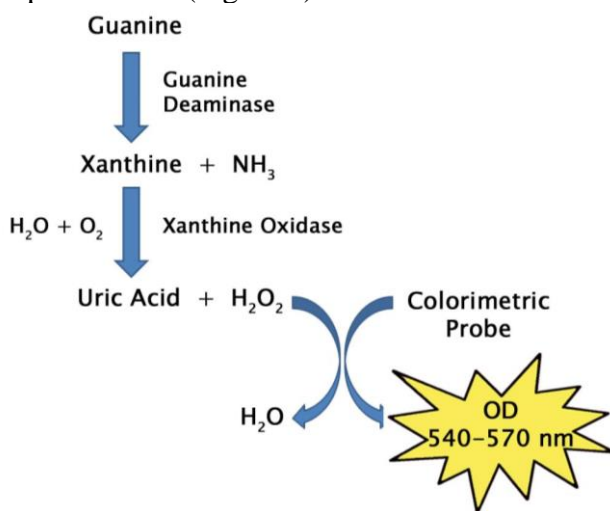

Figure 1. Guanine Assay Principle.
This kit measures total guanine within biological samples. Guanine is converted into xanthine by guanine deaminase. Then xanthine is converted to uric acid and hydrogen peroxide by xanthine oxidase (XO). The resulting hydrogen peroxide is then detected with a highly specific colorimetric probe. Horseradish peroxidase catalyzes the reaction between the probe and hydrogen peroxide, which bind in a 1:1 ratio. Samples are compared to a known concentration of guanine standard within the 96-well microtiter plate format. Samples and standards are incubated for 15 minutes and then read with a standard 96-well colorimetric plate reader (Figure 1).